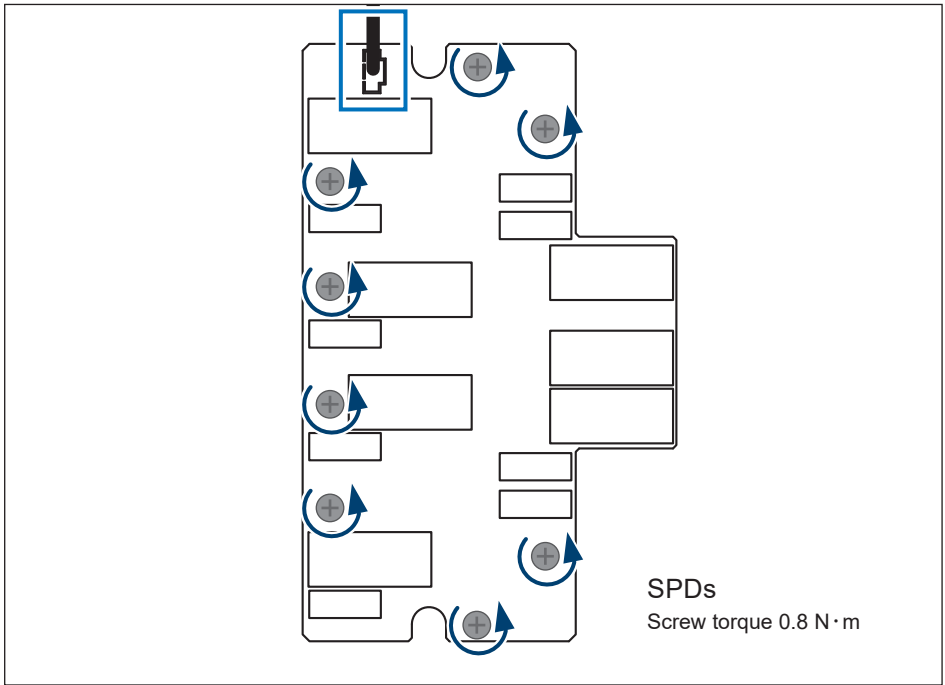

Figure 5-7: Remove sensing cable and screws
5. Use PH2 screwdriver loose 8 screws to remove SPD. (**Figure 5-7**)